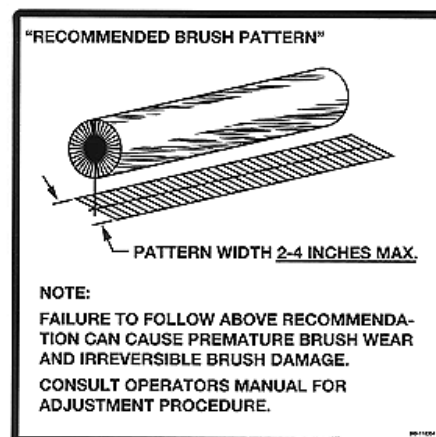

Figure 6
4. Confirm adjustment by running the broom for about 30 seconds in the down position while stationary. Stop the broom and move the unit away. The 'cleaned' area (contact patch) should be 2-4" wide from front to rear for the entire length of the broom (Figure 6).